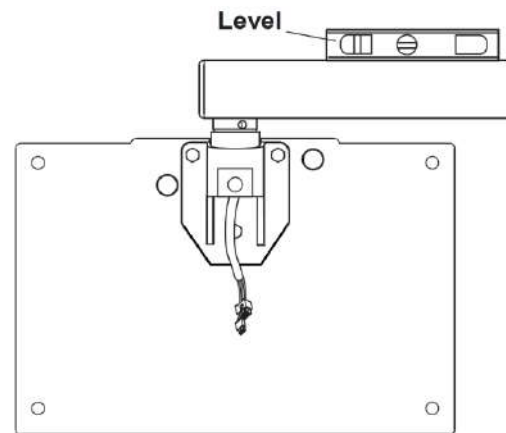

Fig.3-5A Level Check
4. Place a level on the horizontal arm and confirm that the arm has same positive degree at its left, center and right swing positions. (**Fig.3-5A**)